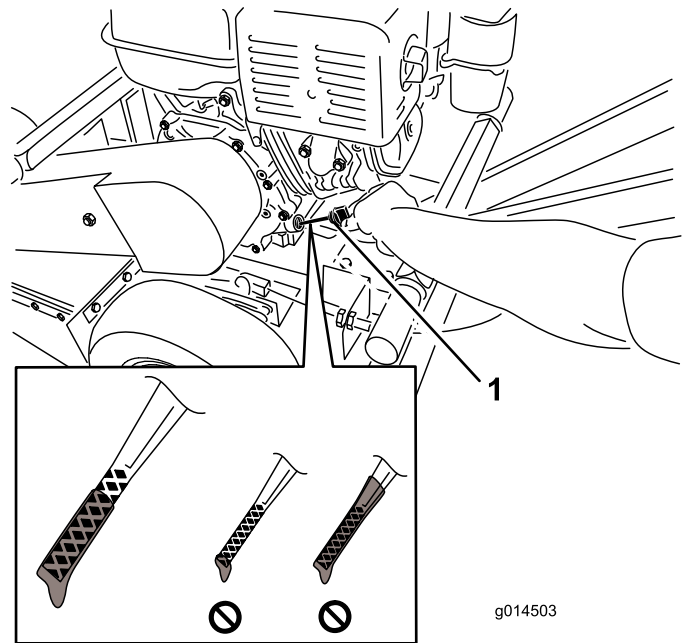

Figure 10
6. Pull the dipstick out and look at the end; the oil should be to the top of the upper limit range (Figure 10).